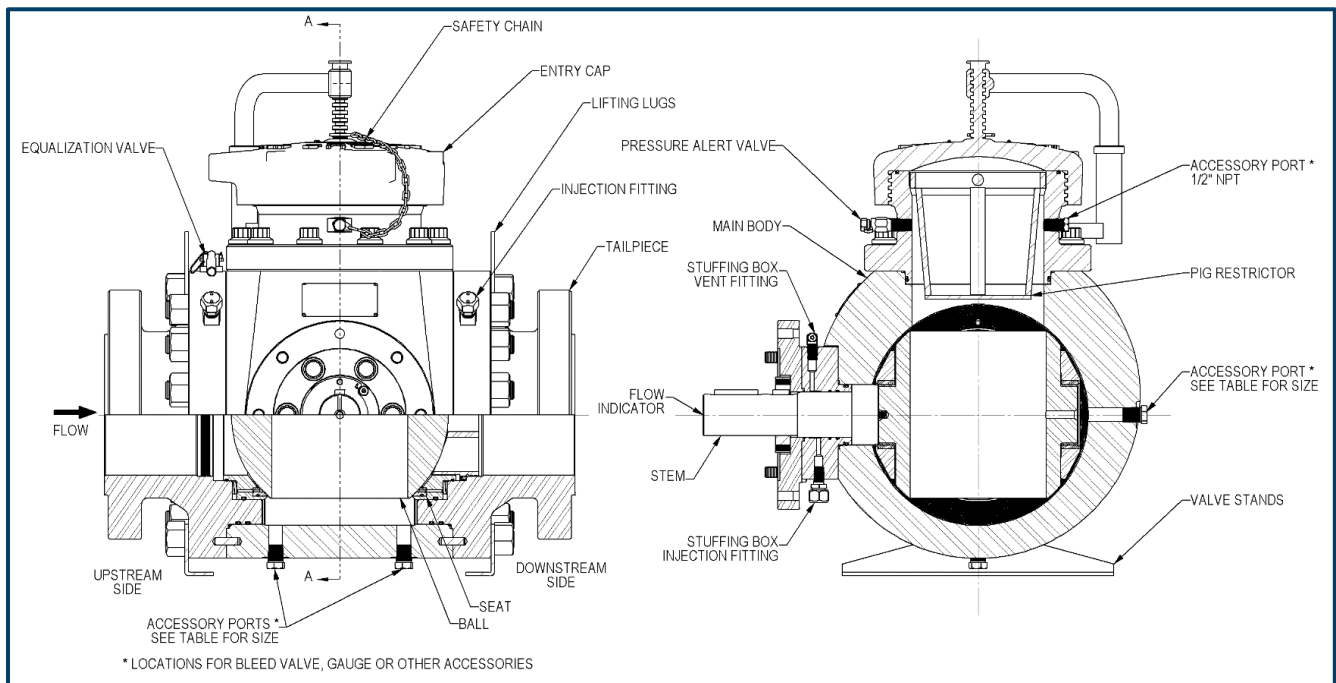

Figure 2: Pig Valve Model D c/w Pressure Alert Valve, Integral Equalization Valve
- Ensure that at least one of the accessory ports in the Pig Valve has been equipped with a vent valve (see Figure 2 & Table 1).
9. Remove the pig restrictor from the valve bore (see Figure 2).
9. Remove the pig restrictor from valve (see Figure 2)
Model D Pig Valves are equipped with seat injection ports and a stem injection port. These ports are used to inject cleaners, lubricants and sealants into the interface between the seat insert and the ball. Periodic injection of these cleaners, lubricants and sealants will reduce downtime, costly repairs and prolong the life of the Pig Valve. Cleaners and lubricants are especially recommended for severe service applications. Refer to Figure 2 – 6.